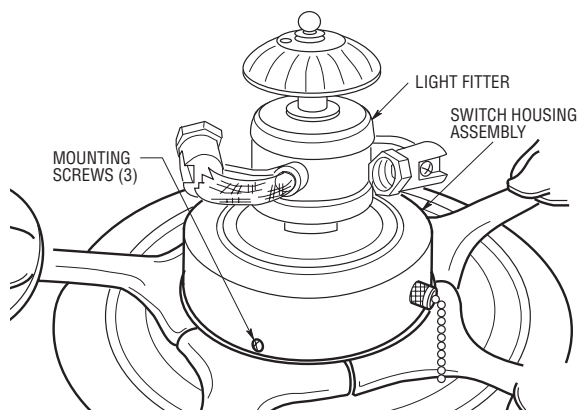

Figure 7
- 14. Remove the three switch housing mounting screws (Figure 7) from the switch housing plate. Position the switch housing assembly on the switch housing plate and align the holes in the switch housing assembly with the holes in the plate. Secure the switch housing assembly by installing the three mounting screws (Figure 7).